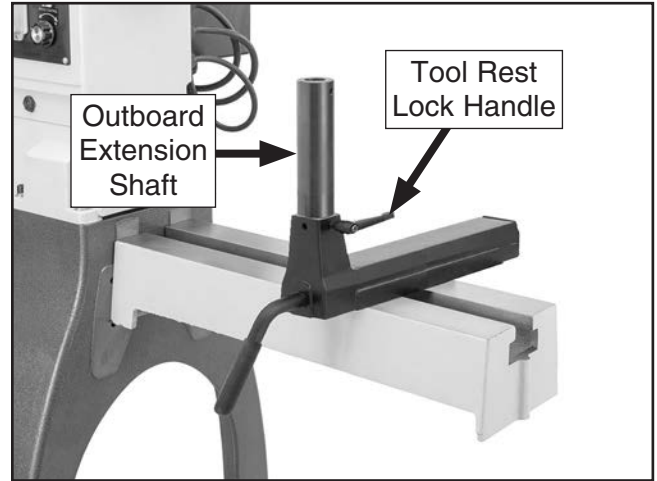

Figure 5. Outboard extension shaft installed in base.
5. Install outboard extension shaft in tool rest base hole, then secure with tool rest lock handle (see **Figure 5**).